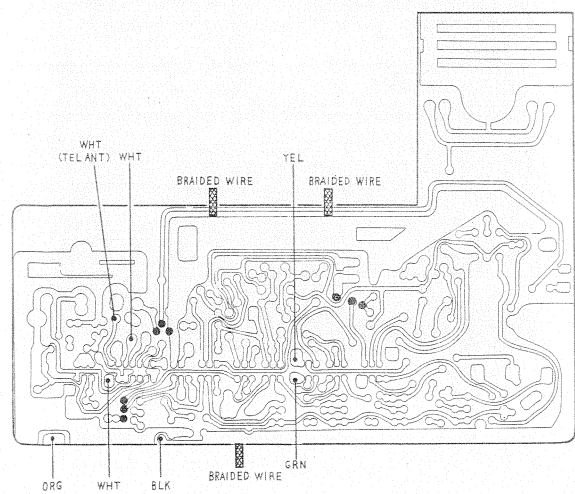

Fig. 2-6. Cp circuit board removal
4. Unsolder the seven leads and the three braided wires in Fig. 2-6.